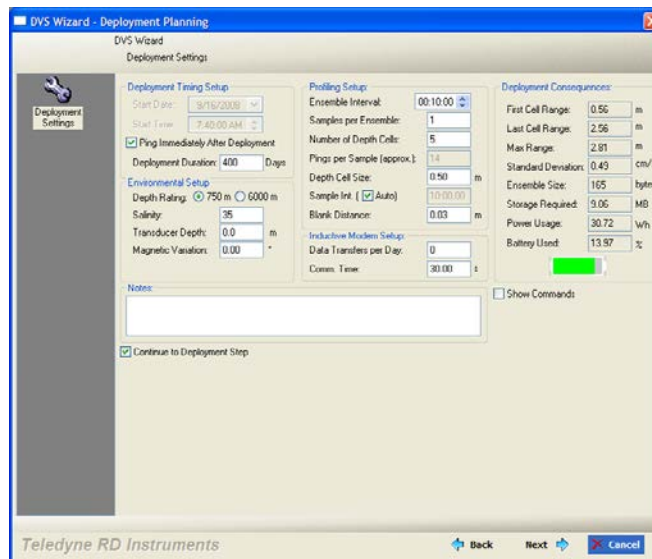

Figure 10. DVS Wizard – Deployment Settings
- b. A command file must be loaded into the *DVS* software, either having been generated in the planning module (see Using the Deployment Wizard), or loaded directly from the **File, Open** menu. In either case, the *DVS* software display should be at the **Deployment Settings** screen as shown in Figure 10.